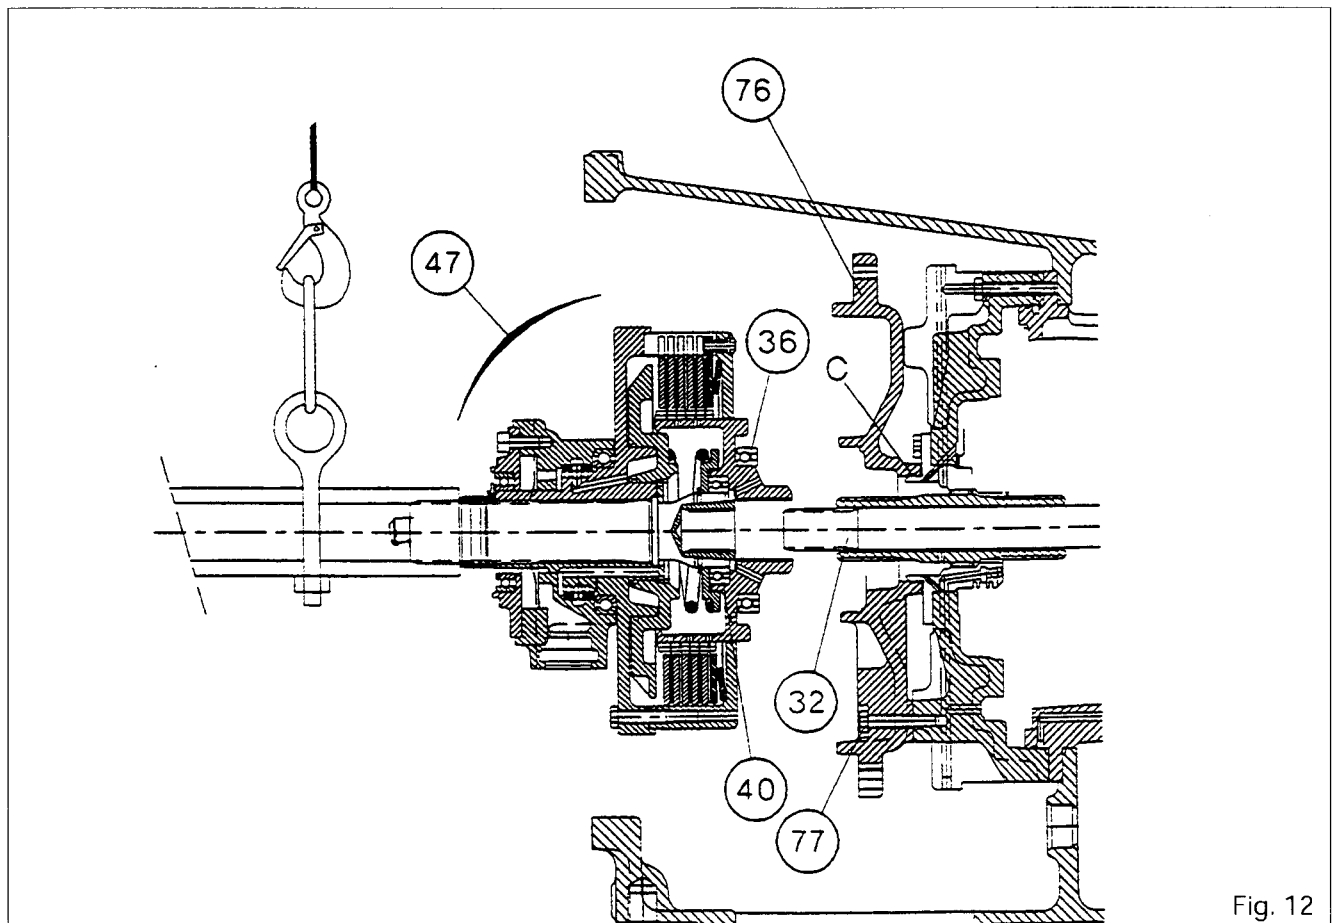

Fig. 12
H. Speedshift version (Fig. 12)